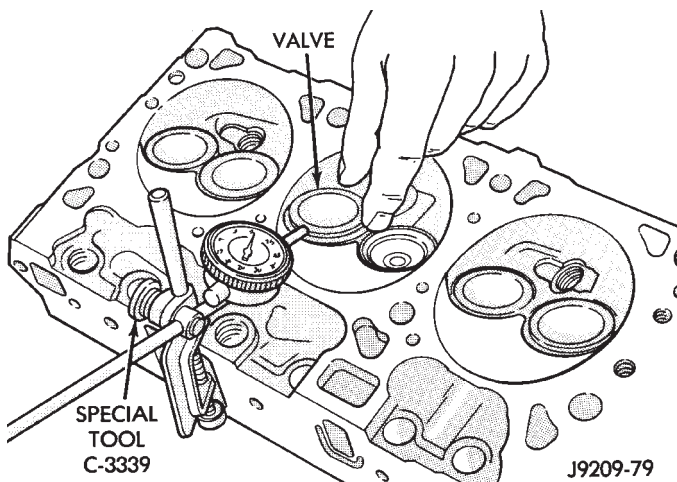

Fig. 51 Measuring Valve Guide Wear
(2) Attach dial indicator Tool C-3339 to cylinder head and set it at right angles to valve stem being measured (Fig. 51).
(3) Move valve to and from the indicator. The total dial indicator reading should not exceed 0.432 mm (0.017 in.). Ream the guides for valves with oversize stems if dial indicator reading is excessive or if the stems are scuffed or scored.